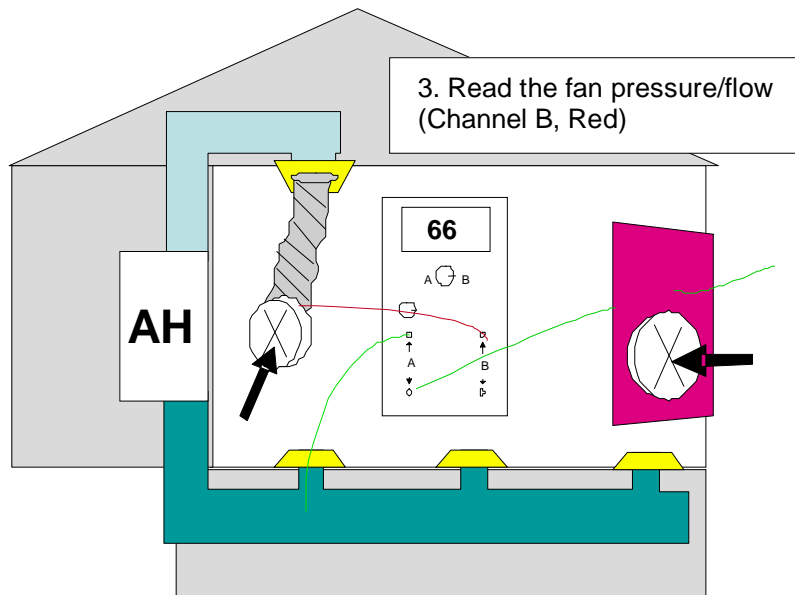

Figure 5: Determining duct leakage.
4. Determine the duct leakage (with simple manometers, the fan pressure (Pa) is converted to CFM25 using a flow table. Many digital manometers sold with duct testing equipment can automatically perform this conversion, and display CFM25 directly.) Consult your duct testing equipment manual (see Figure 5).